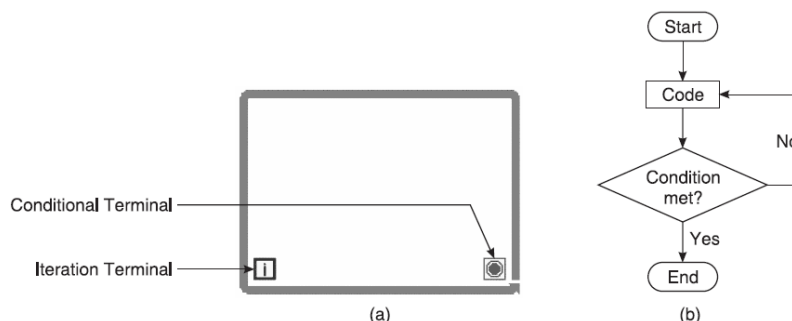

**Figure 4.2** Generating random numbers using For Loop.
- **I**: The iteration terminal 'i' (an output terminal) contains the number of completed iterations. The iteration count always starts at zero. During the first iteration, the iteration terminal returns 0. Figure 4.2 shows a simple For Loop which generates 10 random numbers and displays in the Random Number Indicator.